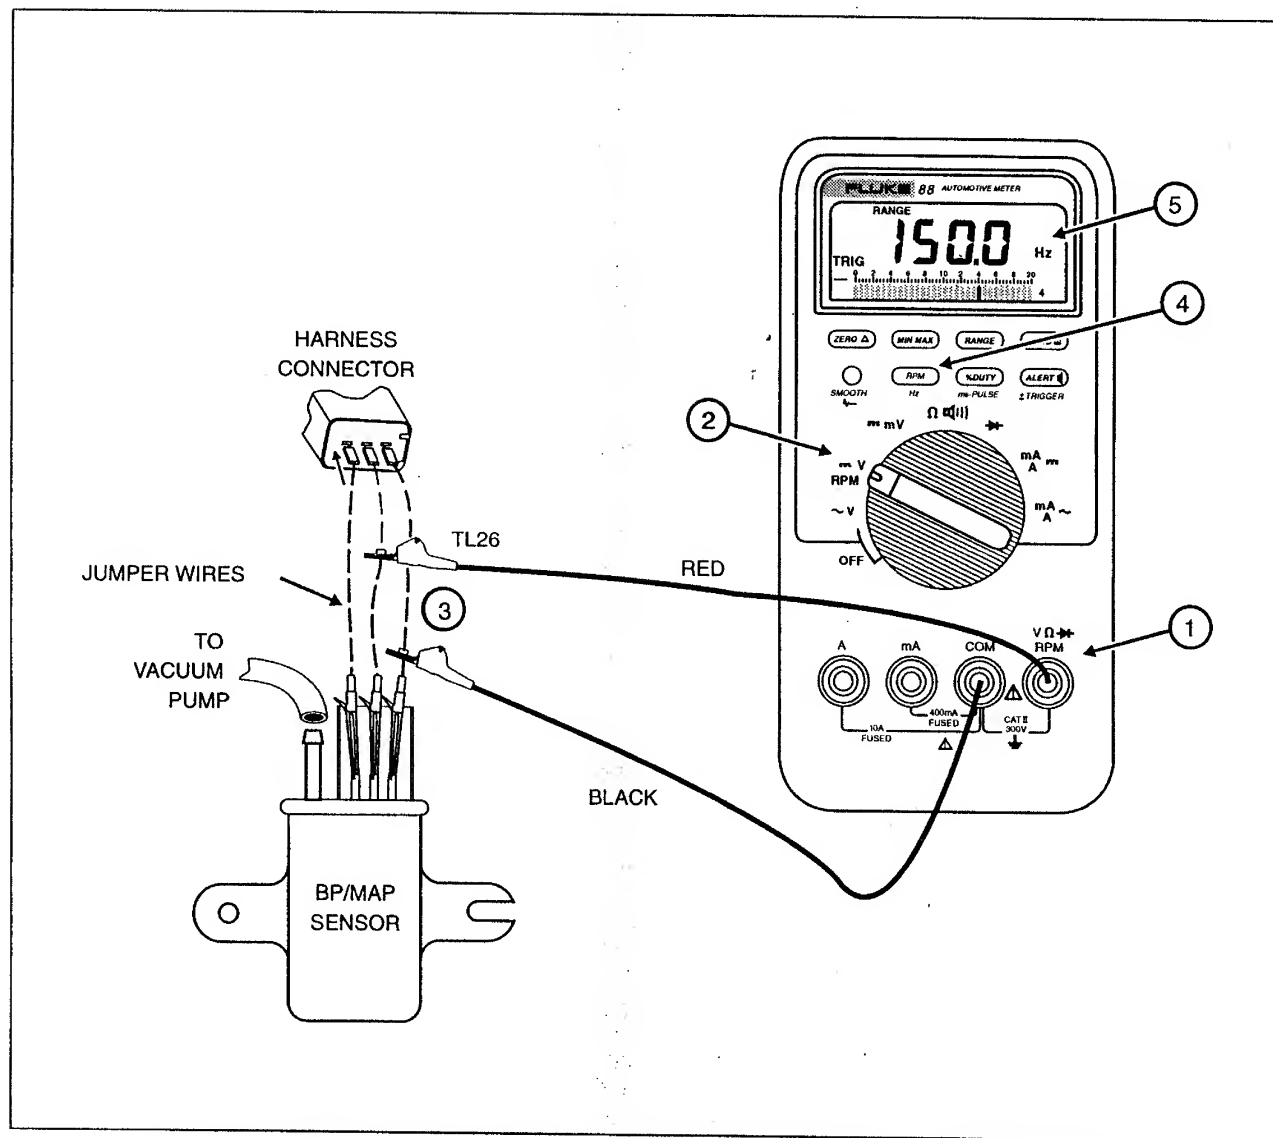

Figure 12. Checking Barometric Pressure/Manifold Absolute Pressure (BP/MAP) Sensors
1. Insert the test leads in the input terminals shown in Figure 12.